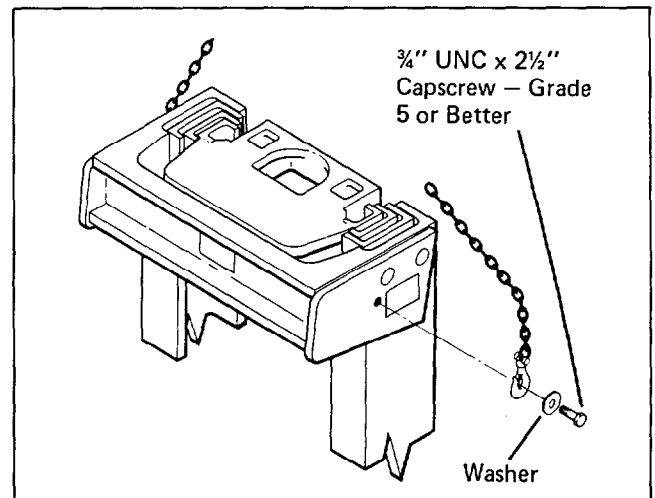

Figure 5-21 Lifting Procedure
11. Thread a 3/4" UNC x 2-1/2" capscrew (grade 5 or better) with a large flatwasher into the hole on each side of the mast as shown in figure 5-21.